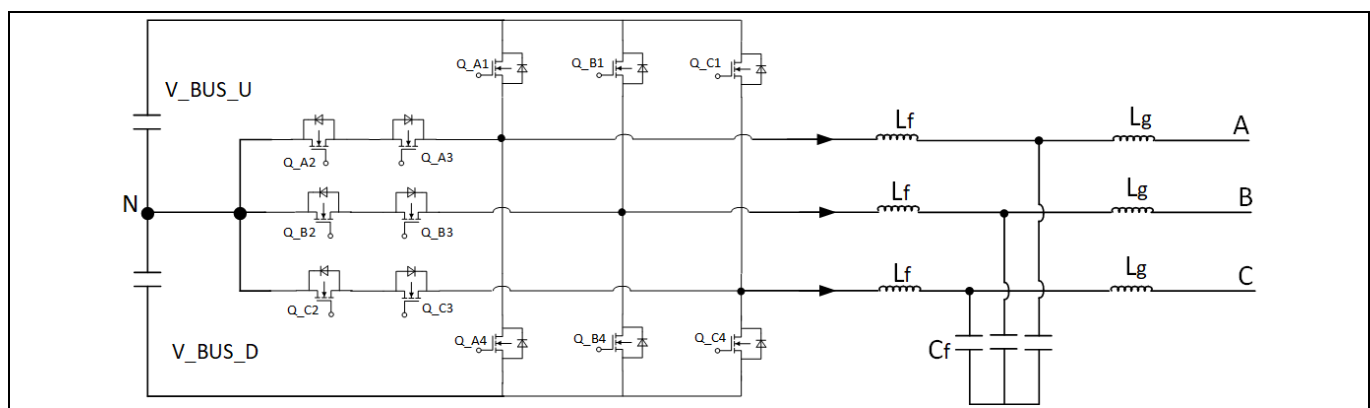

Figure 22 Circuit diagram of an NPC2 inverter
REF-10KW3LNPC2Q consists of three legs connected in parallel, each arm containing two SiC MOSFETs, and two clamping diodes. A key feature is the neutral point (NP) – a central node between the DC-link capacitors that serves as a reference voltage for clamping. The circuit diagram for the NPC2 inverter is shown in Figure 22. Parasitic circuits of the inductor and capacitor have been ignored, and the switch and diode have been assumed to be the ideal devices for further mathematical analysis.